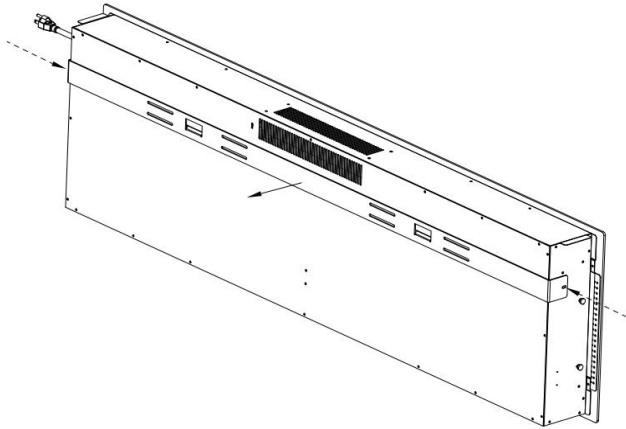
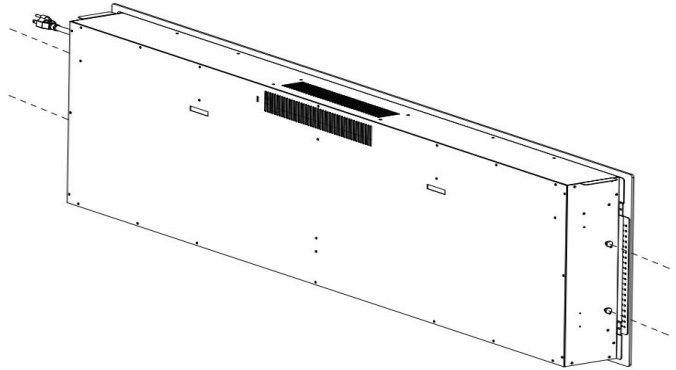

Fig.1
Fig.2
- C. Place unit face down on a soft, non abrasive surface. Remove the bracket from the back of the unit by removing the screws, refer to Figure 1. Remove four pcs of silver screws at both sides, refer to Figure 2.
- B. If your fireplace come with lotset, remove the logset from the package, put it to the fireplace designed place. Figure 1.